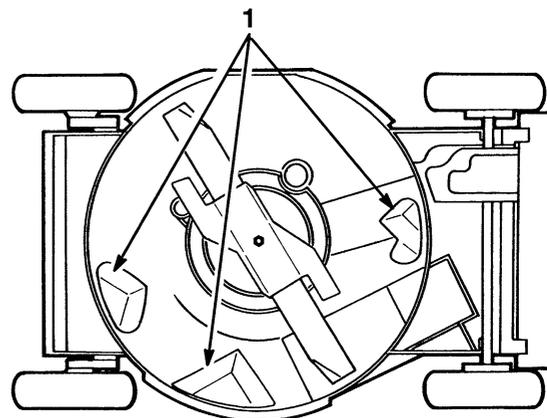

Figure 26
To ensure best performance, keep underside of mower housing clean. Be especially careful to keep kickers free of debris (Fig. 26).
3. Tip mower on its right side (Fig. 26).